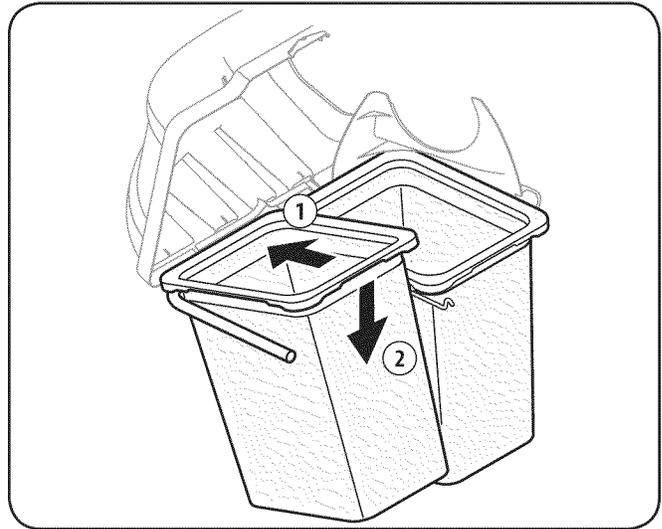

Figure 4-14
8. Install both bag assemblies onto the bag support brackets by inserting the front edge in first, as seen in 1 of Fig. 4-14, and setting the back edge down until it fits into the assembly (2).